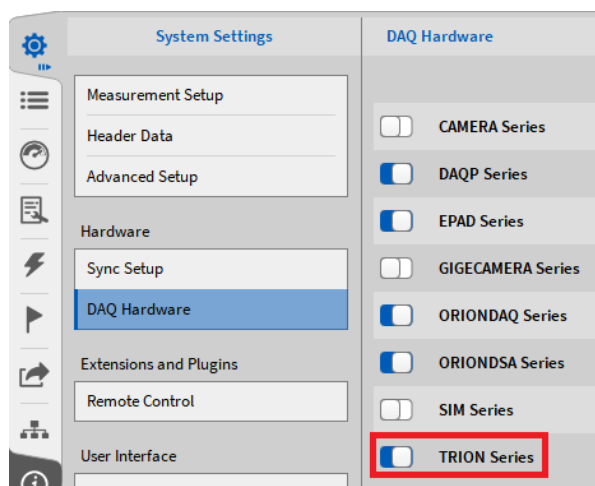

Figure 2-10: Enabling the TRION Series in the DAQ Hardware setup
- Go to the *DAQ Hardware* setup in the *System Settings* and make sure that the *TRION Series* is enabled (see Figure 2-10) (Changes take effect on application restart)